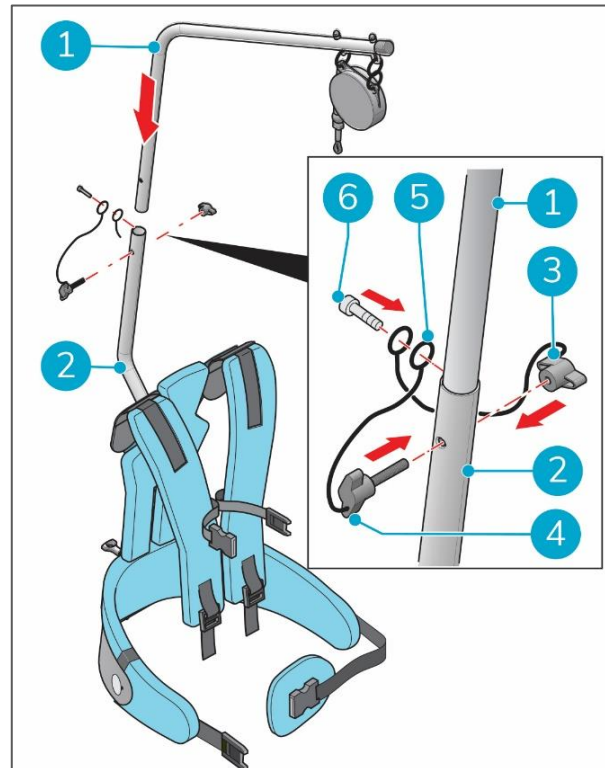

Figure 7
1. Insert the upper part of the support tube in the lower part of the support tube (Figure 7, pos. 1, 2).
2. Install the rubber cord (Figure 7, pos. 5) with the socket head cap bolt (Figure 7, pos. 6) on the support tube.
4. Install the wing nut and wing bolt (Figure 7, pos. 3, 4).